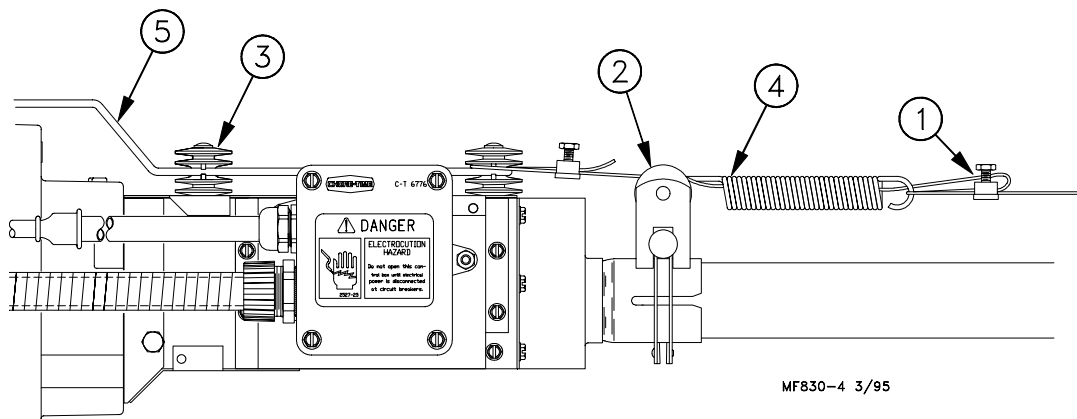

Figure 49. Anti-Roost Installation at the Control Unit
9. At the control unit, after clamping the cable to the spring, cut the cable about 8" to 10" (200 to 250 mm) longer than necessary. Feed the end of the cable through the center of the spring, around the first insulator on the control unit, and clamp the cable using the cable clamp supplied with the control unit. See Figure 49.
10. Install the wire form on the control unit insulators. Be sure the guard snaps into the retainers molded into the insulators. See Figure 49.